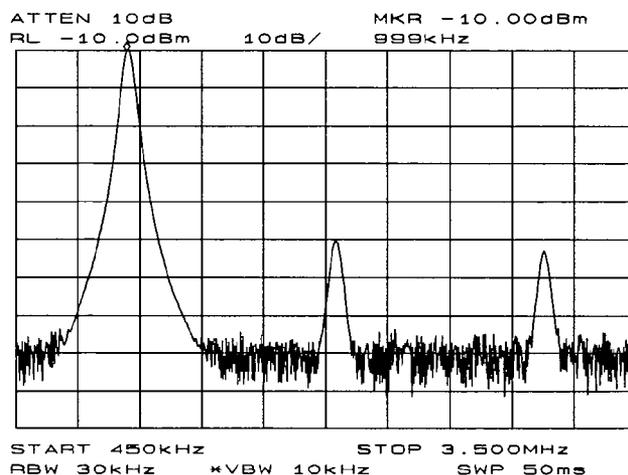

Figure 3-2. Peak of signal is positioned at reference level for maximum accuracy.
2. For greatest measurement accuracy, raise the peak of the fundamental to the reference level by pressing **PEAK SEARCH**, **MKR ->**, and then **MARKER -> REF LVL**. This is shown in Figure 3-2. In order to place a second marker on the second harmonic, set the peak threshold above the noise by pressing **PEAK SEARCH**, **MORE 1 OF 2**, and **PEAK THRESHLD**. Adjust the dashed line to a level above the noise using either the step keys or the knob. To activate a second marker, press **PEAK SEARCH**, **MARKER DELTA**, and **NEXT PK RIGHT**. This places the anchor marker on the fundamental, and a second marker on the peak of the second harmonic as shown in Figure 3-3. The difference in amplitude between the fundamental and second harmonic shown in the figure is approximately  $-50$  dB, or 0.33 percent harmonic distortion (see Figure 3-4). To measure the third harmonic, press **NEXT PK RIGHT** again. Continue reading amplitudes and comparing them to Figure 3-4 for each additional harmonic you wish to measure. **PEAK EXCURSN** defines what is and is not a peak; the next-peak routines find the corresponding peak.